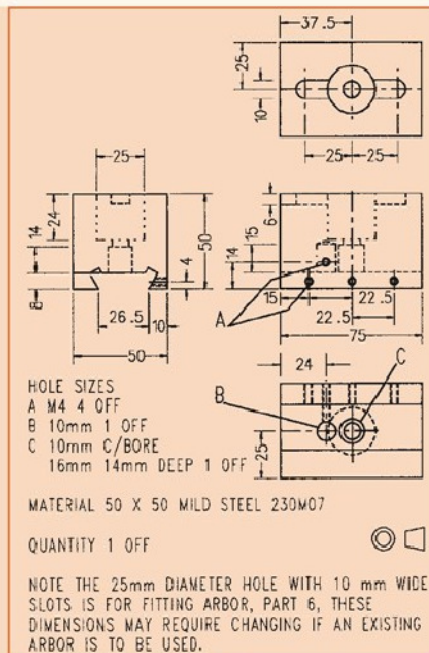
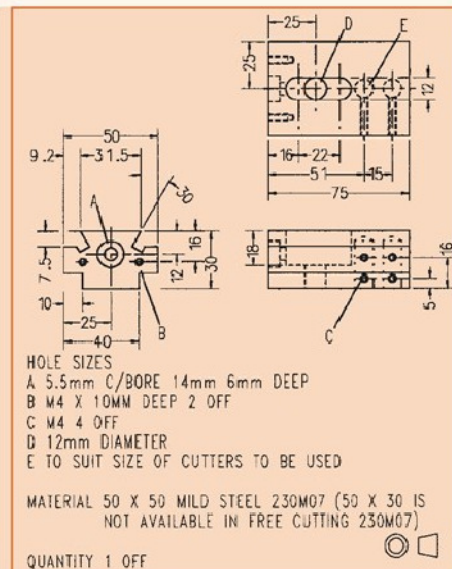

Fig. 2 Body - Part 7
Fig. 3 Cutter carrier - Part 8
Body 7 (Fig 2) and Cutter Carrier 8 (Fig 3)
Cutter Carrier (8) (Fig 3)